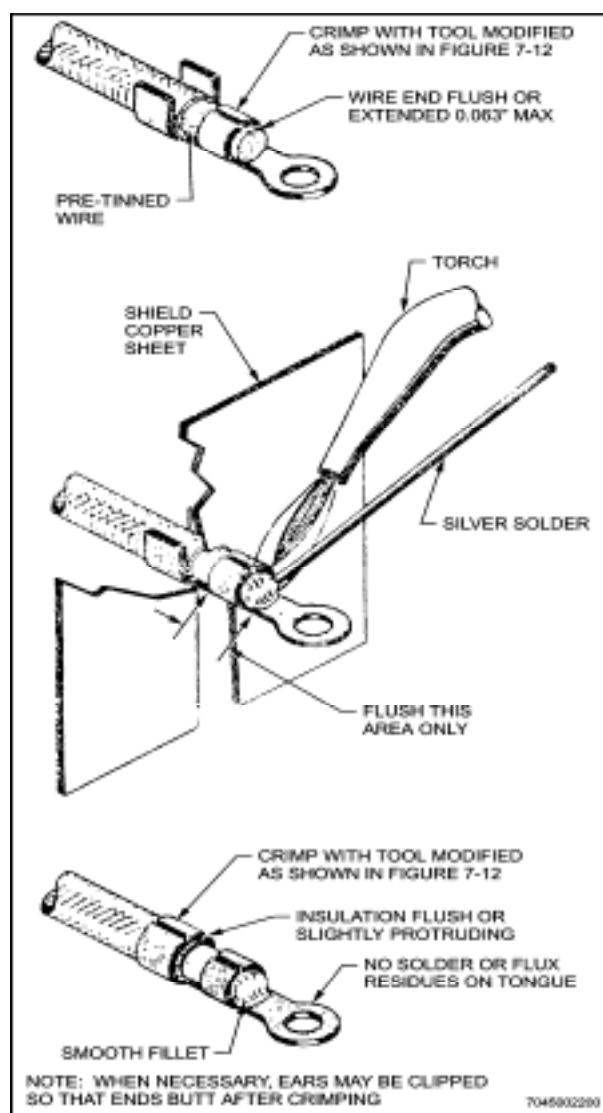

Figure 16-11 Silver Soldering Thermocouple Wire to Terminal
- b. Install terminal on wire so that insulation is flush with or protrudes slightly beyond insulation grip. The tinned portion of the conductor should then be inside the wire grip. (See Figure 16-11.)
- a. Install terminals on thermocouple wires as described in Para 17, and illustrated in Figure 16-11.
- d. Bend insulation grip ears around insulation using crimping tool shown in Figure 16-12. Trim ears so they butt flush around small wires. (See Figure 16-11.)